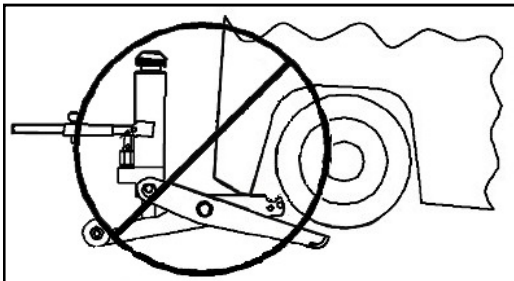

Fig. 9: Only use the notch/lift pad to lift forklift
- ⚠ Never use any other area on the jack as a contact point (Fig. 9).